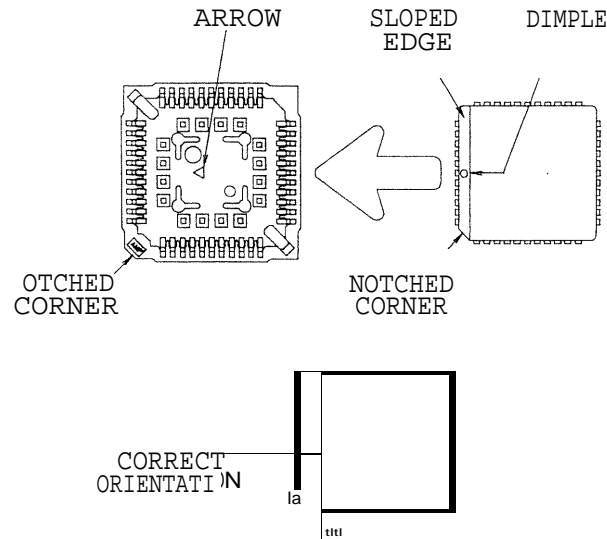

Figure 8-2 The BOOT ROM must be installed with the correct orientation.
- 4) Position the new BOOT ROM into the socket of the MPB, paying close attention to orientation (see Figure 8-2).